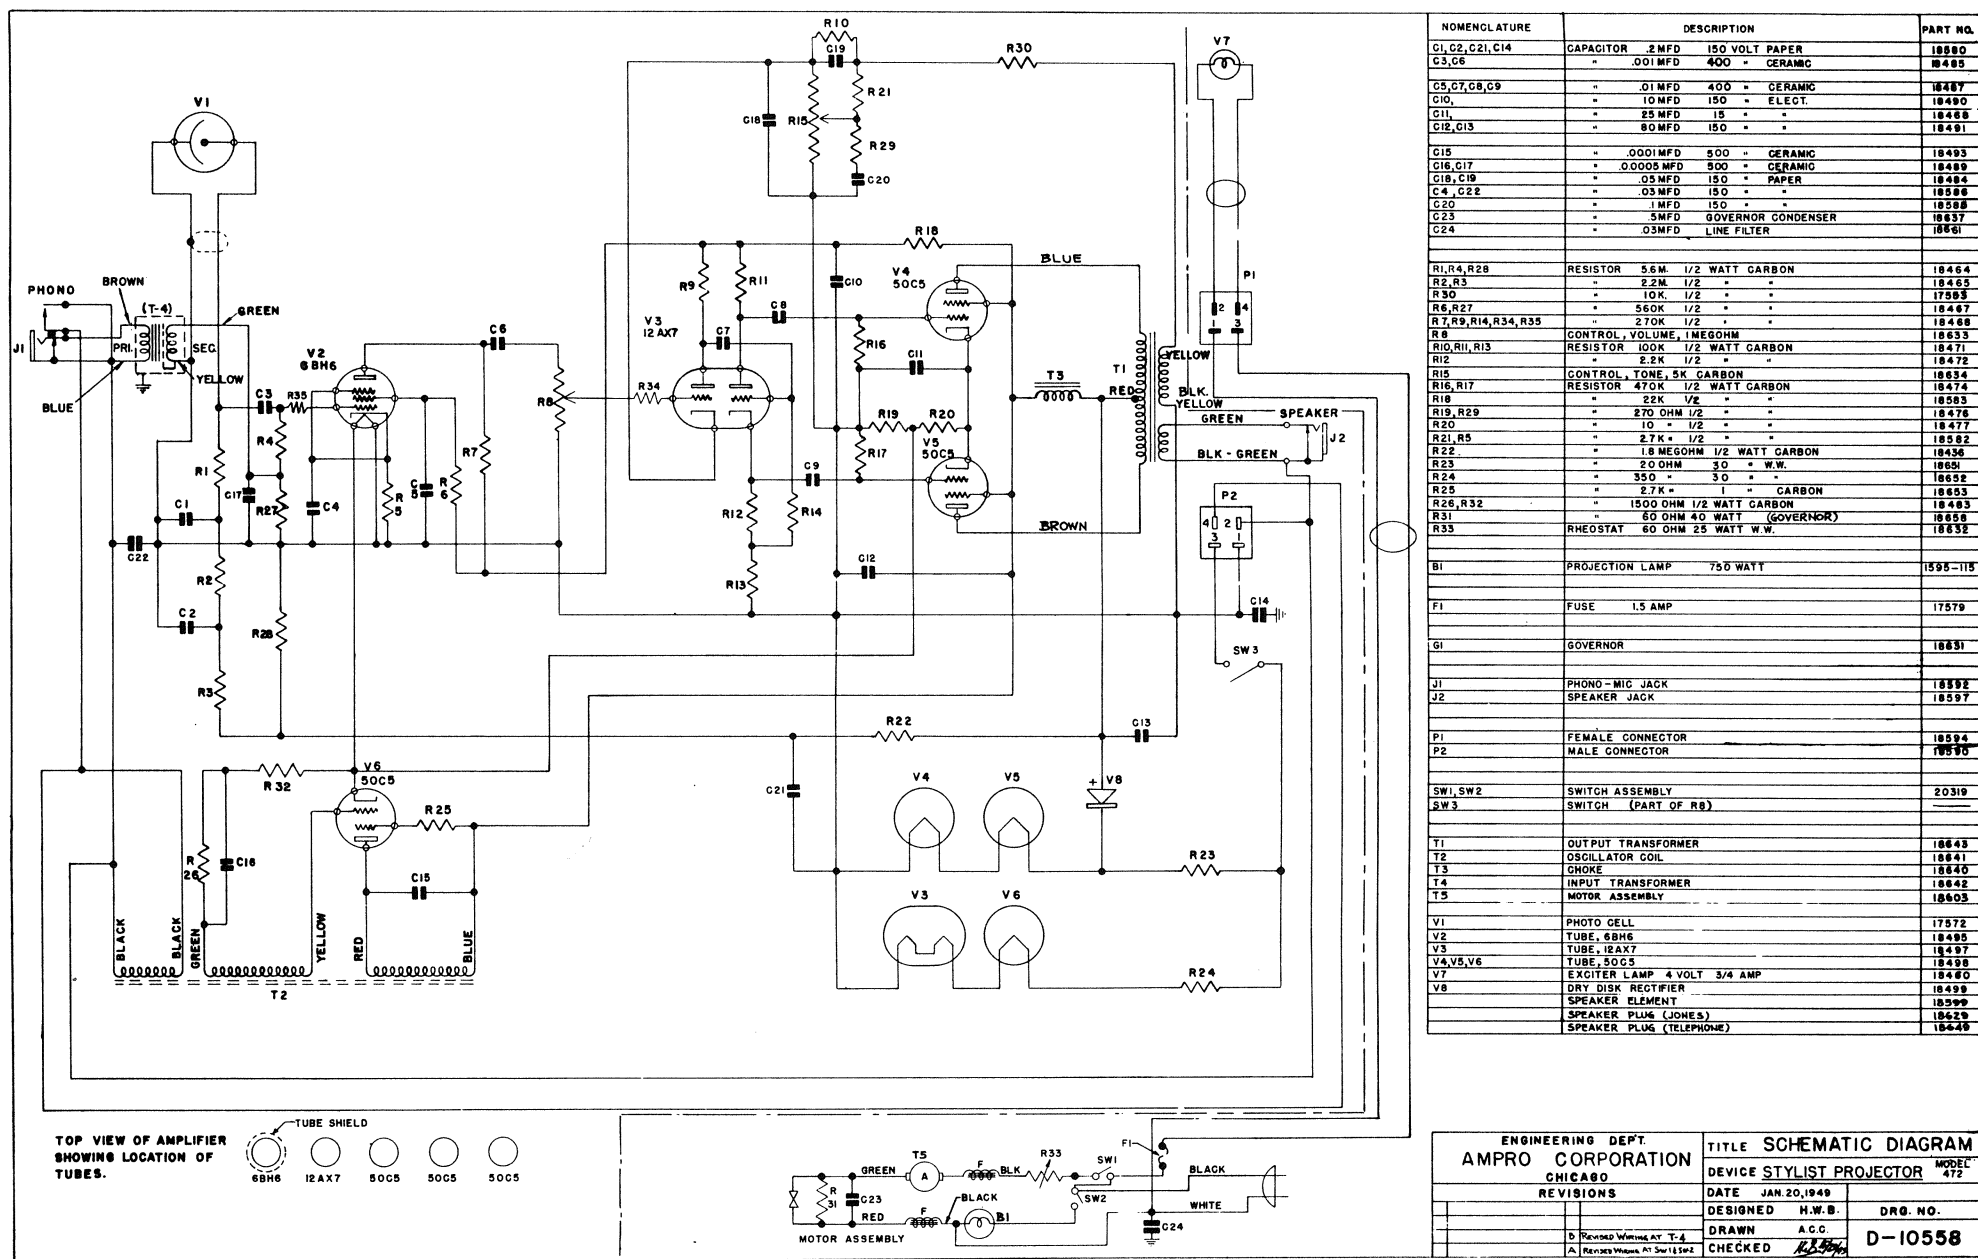

Figure 7 - SCHEMATIC DIAGRAM
- b. Servicing (See Fig. 7) - It is beyond the scope of this manual to describe in detail the servicing of a multi-stage vacuum tube amplifier. The components of the amplifier are readily accessible, therefore, disassembly and reassembly instructions are not necessary. Lead dressing is not critical.